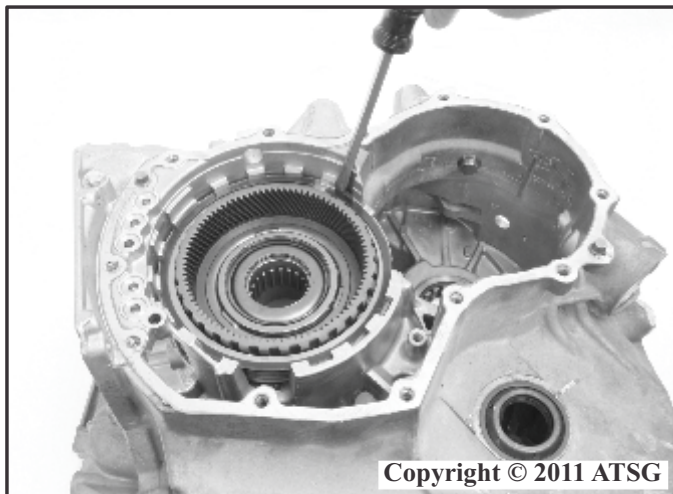

Figure 57
91. Using a screwdriver remove the low and reverse clutch snap ring as shown in Figure 57.
92. Remove the low and reverse clutch upper backing plate, the lined and steel plates and the lower backing plate as shown in Figure 57.